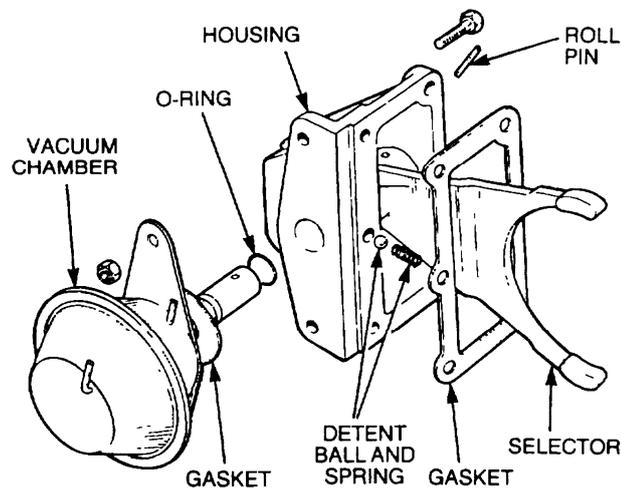

Figure 75 Vacuum Chamber Selector Disassembly
- j. Using a suitable pin punch, tap out the roll pin securing the selector fork to the vacuum chamber shaft (Figure 75).